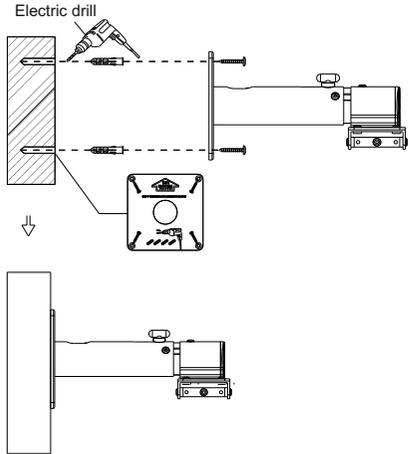

Figure 1-14
Step 5-2: determine the position of hanger to be installed on the wall, paste the label of drilling position, align the hole location with drilling tool, drill 4 Φ 10 holes, knock in expanded rubber particles, and screw in ST6 * 45 self tapping screw to install the top mounting plate assembly on the wall. Refer figure 1-14 (Suitable for wall mounting)